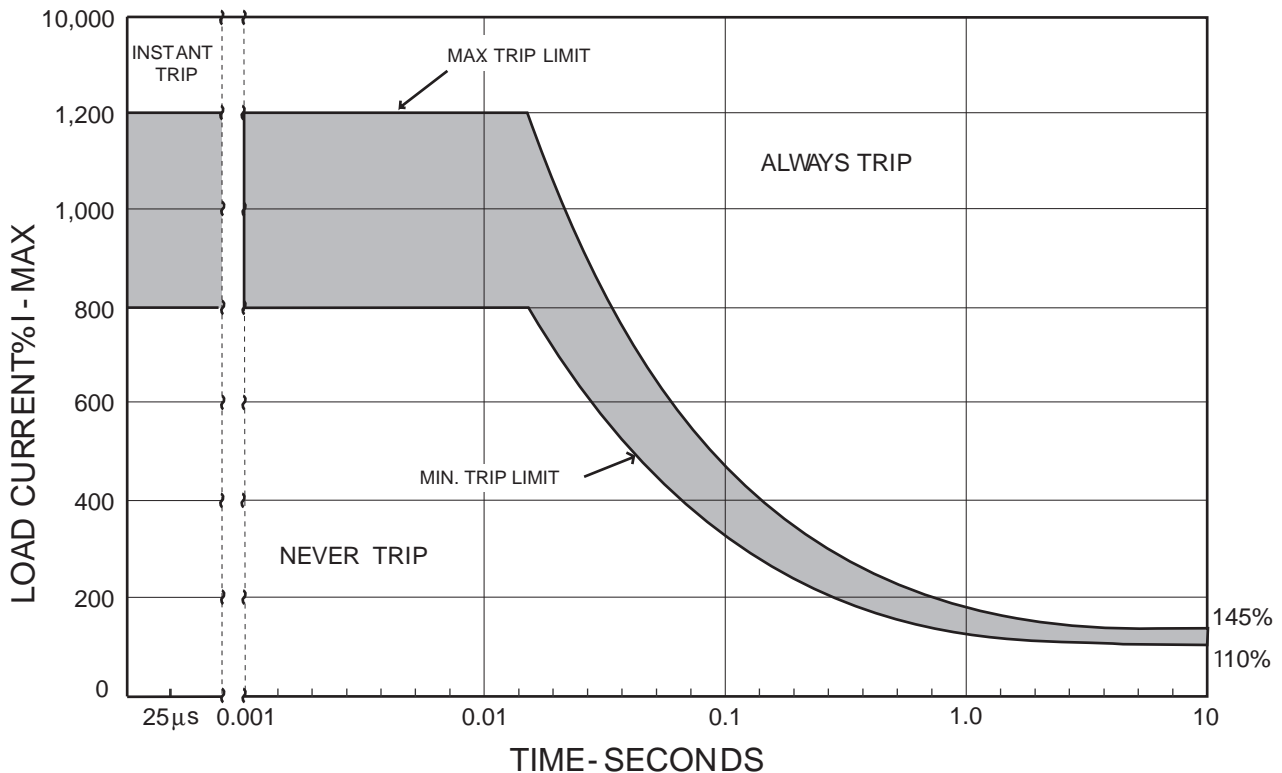

FIGURE 2. TRIP CHARACTERISTICS
Trip Characteristics	see FIGURE 2
As in a circuit breaker, the SSPC's time to trip depends on the current level. Slight overloads will cause longer trip times. Heavy overloads will cause shorter trip times. The fault ("Instant Trip") and I²T trip curve (see FIGURE 2) shows the trip time as a function of current for a single trip or repetitive trips with at least 10 seconds between trip and turn on. Attempts to repeatedly turn on into an overload will result in the thermal memory shortening each trip time. This "memory" protects the wire, load and Solid-State Power Controller.
For load currents less than 800%, the trip time can be found from FIGURE 2 by drawing a horizontal line on FIGURE 2 at the current level of interest. The SSPC will always trip at a time between the two curves. This is true I²T tripping.
For load currents greater than 1200%, the SSPC will turn off in less than 25 μs. Between 800% and 1200%, the SSPC will turn off in a time less than the "max. trip limit" shown in FIGURE 2 and may turn off in less than 25 μs. When the SSPC turns off under these fault conditions, the fall time is less than 25 μs.
- 3) Any trip condition per FIGURE 2.
Capacitive loads require comparing the load in-rush current to the trip curve of FIGURE 2. The inrush current must be below the minimum trip curve to avoid tripping on the inrush current. The inrush current can be calculated from the voltage rise time by using $i=C*dv/dt$. Use the minimum rise time for calculation. The minimum rise time is 25% of the maximum rise time specified in FIGURE 3.